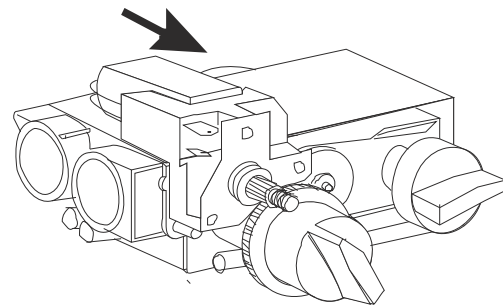
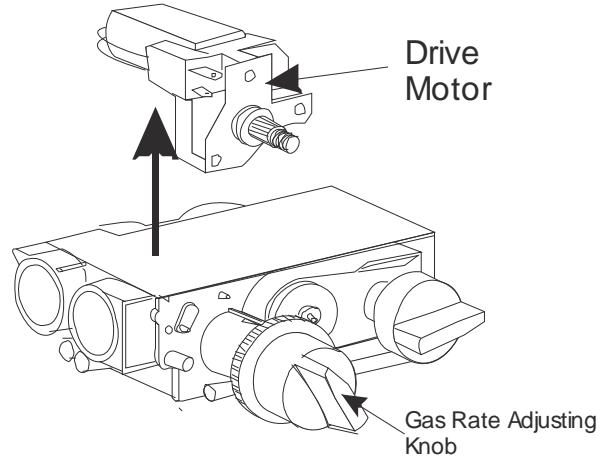

Figure 62
Figure 63
6. Turn the gas rate adjusting knob fully anticlockwise and gently manipulate the motor free from the valve (see note). (See **Figure 62 & Figure 63**)